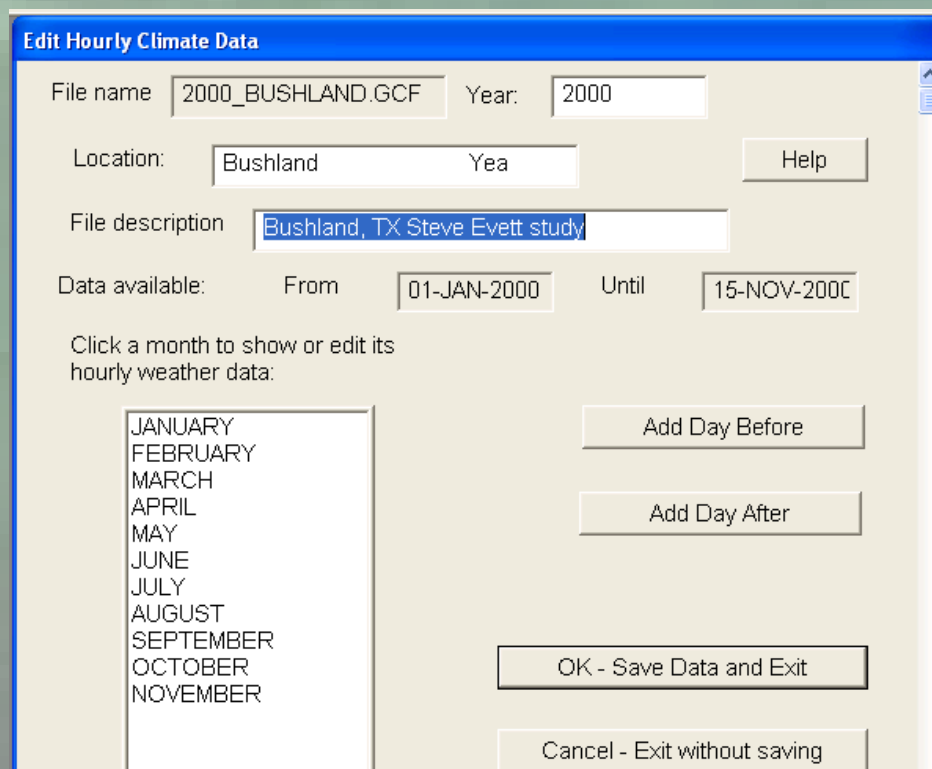

Figure 1. Hourly climate data.
- Climatic data (short-wave irradiance, air temperature and humidity, wind speed, and rainfall) on either a daily or hourly time step (Figure 1 & 2)